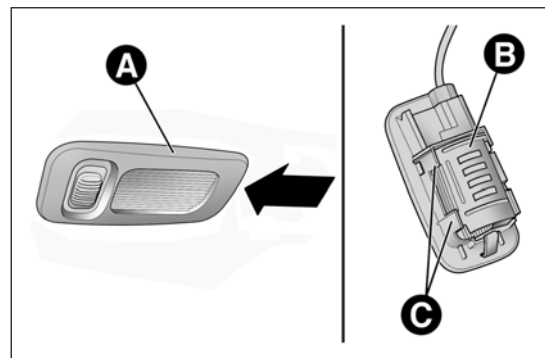

fig. 145
- ☐ lower the sun visor and remove courtesy light A fig. 145, applying leverage at the point indicated by the arrow;
- ☐ refit protection B fig. 145, inserting it correctly between tabs C;